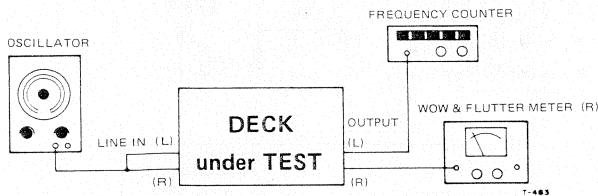

Fig. 4-14
1. Connect a frequency counter to the deck as shown in Fig. 4-14.
1. Connect a wow-and-flutter meter to the deck as shown in Fig. 4-14.